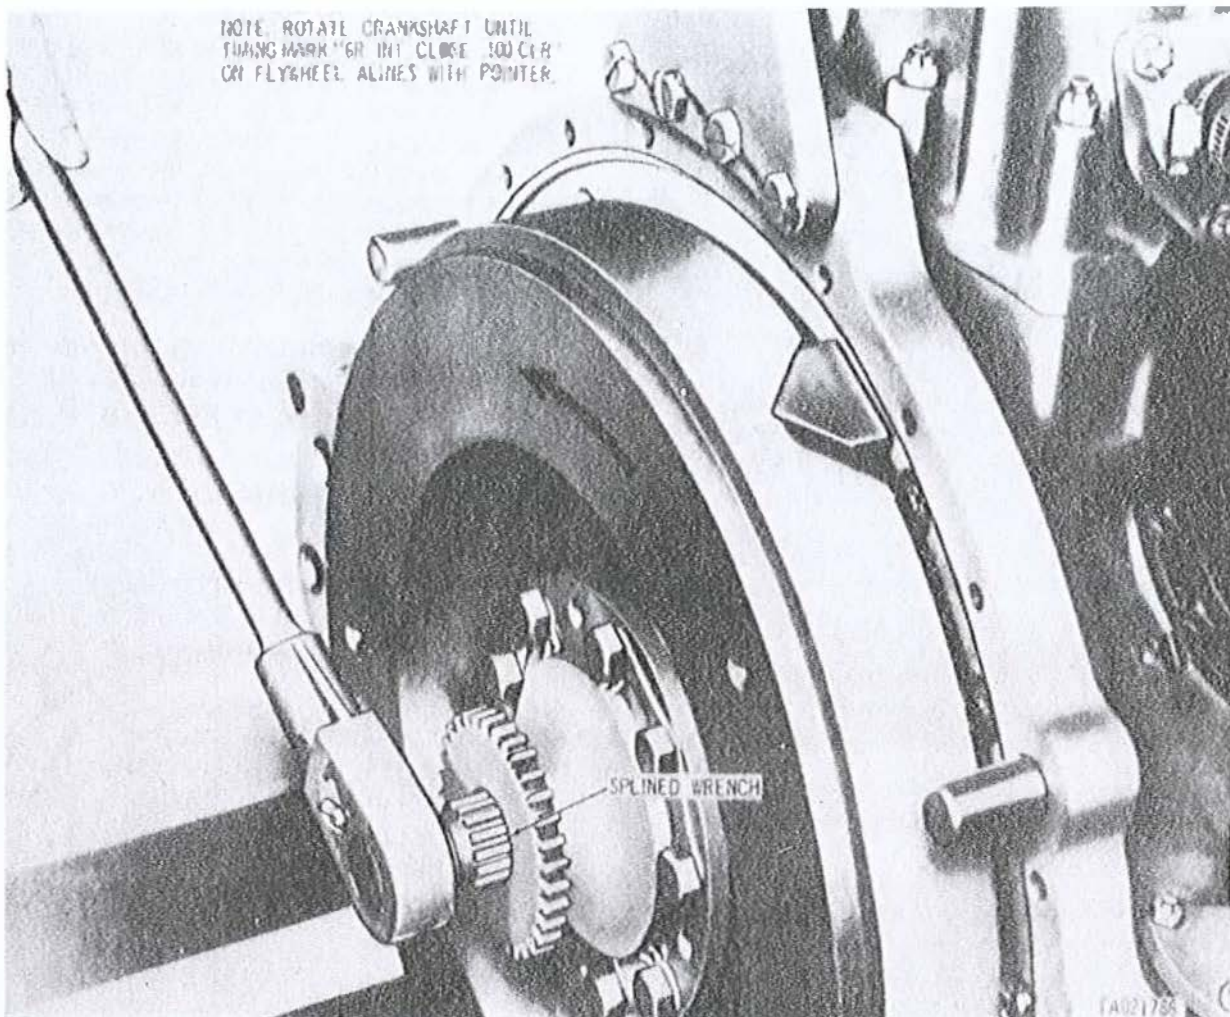
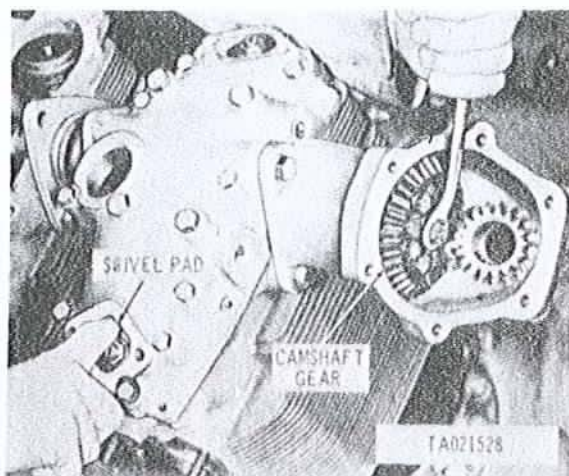
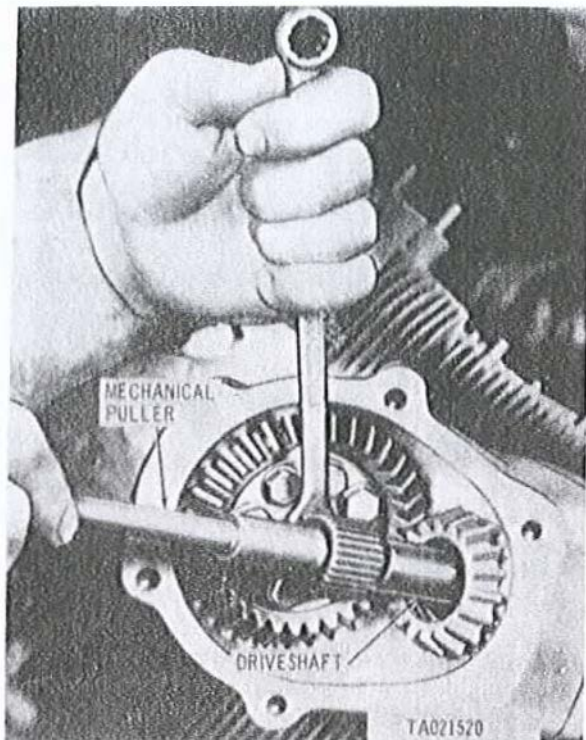

Figure 3-325. Positioning engine flywheel, model AVDS-1790-2C and AVDS-1790-2D engines.
Figure 3-328. Determining closing point of No. 6 intake valve.
Figure 3-329. Installing camshaft drive shaft.
b. Rotate crankshaft until timing mark "6R INT CLOSE .100 CLR" on flywheel aligns with pointer (fig. 3-324) using splined wrench, part number 10882747, (fig. 3-325).
i. Slowly turn camshaft (fig. 3-328) clockwise, as viewed from flywheel end, until No. 6R intake valve has just closed. Closing point is determined by trying to rotate the swivel pad on the intake valve adjusting screw while the camshaft is being
j. Maintain the position of camshaft as set in figure 3-328 and the crankshaft position set in figure 3-325. Insert camshaft drive shaft (fig. 3-329) using mechanical puller part number 8761297, and mate splines on drive shaft with splines in camshaft drive bevel gearshaft. When splines of drive shaft do not mate with splines of camshaft gearshaft, withdraw drive shaft and turn slightly before again attempting insertion.